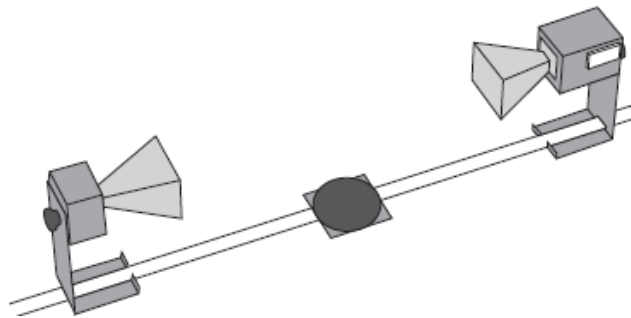

Figure 3: Equipment setup to measure linear polarization with no polarizer
1. Arrange the equipment as shown in Figure 3 with the Transmitter attached to the fixed arm of the goniometer.